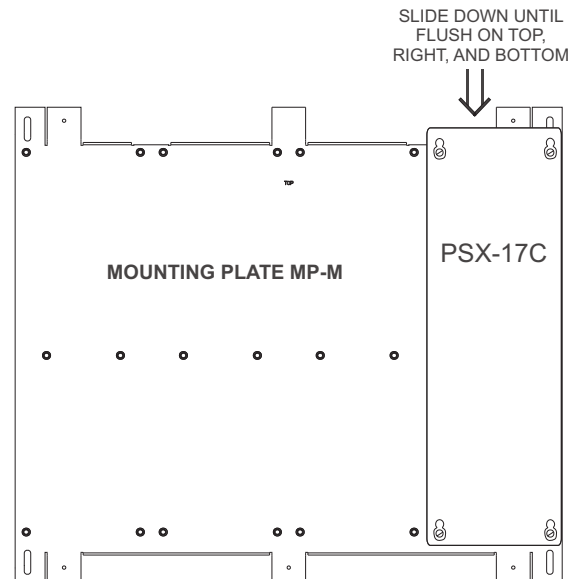

Figure 4
- Place the PSX-17C over the four screws on the Mounting Plate and slide it down or towards you to rest on the four screws (Refer to Figure 4). When the PSX-17C is in the correct position it will be flush with the top, bottom and right side of the Mounting Plate.